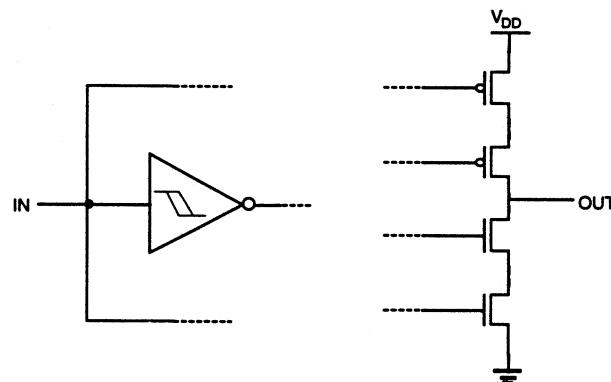

Figure P8.3
- 8.3** We have discussed the features of CMOS Schmitt trigger. It has been pointed out a useful application lies in the receiver circuit design to filter out noises. However, in terms of speed performance it delays the switching activity. In view of speed alone, it would be useful to reverse the switching directions. In particular, we want to have the negative going (high to low transition) edge to occur at an input voltage smaller than the typical inverter's saturation voltage and also the positive going (low to high transition) edge to occur at an input voltage larger than the inverter's saturation voltage. Complete the circuit connection in Fig. P8.3 to realize such a circuit block for the assembly of the following components. Justify your answer by using SPICE circuit analysis. You can make some approximation technique to simulate the circuit. For instance, the different VTC curves can be simulated by using inverters of different  $\beta$  ratios. To be more specific, for larger